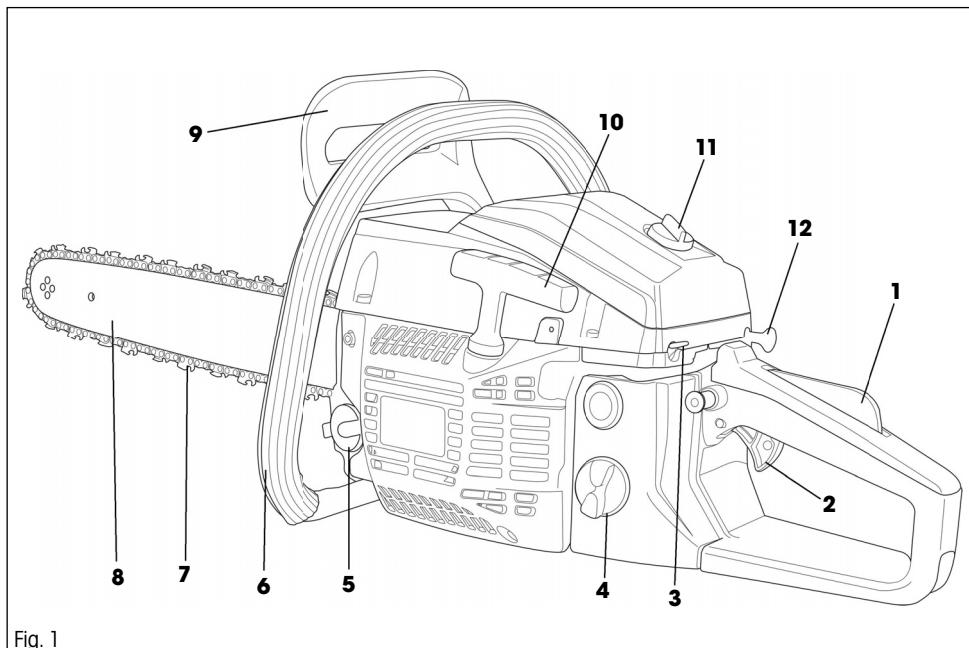

Fig. 1
### Description of the power tool (see Fig. 1)
- The safety brake lever (Fig. 1 point 10) must be disengaged (pull it towards the top handle)
### **Chain brake (Fig. 1, point 10)**
- ✿ Push the brake lever (Fig. 1, point 10) forward. The chain should stop immediately.